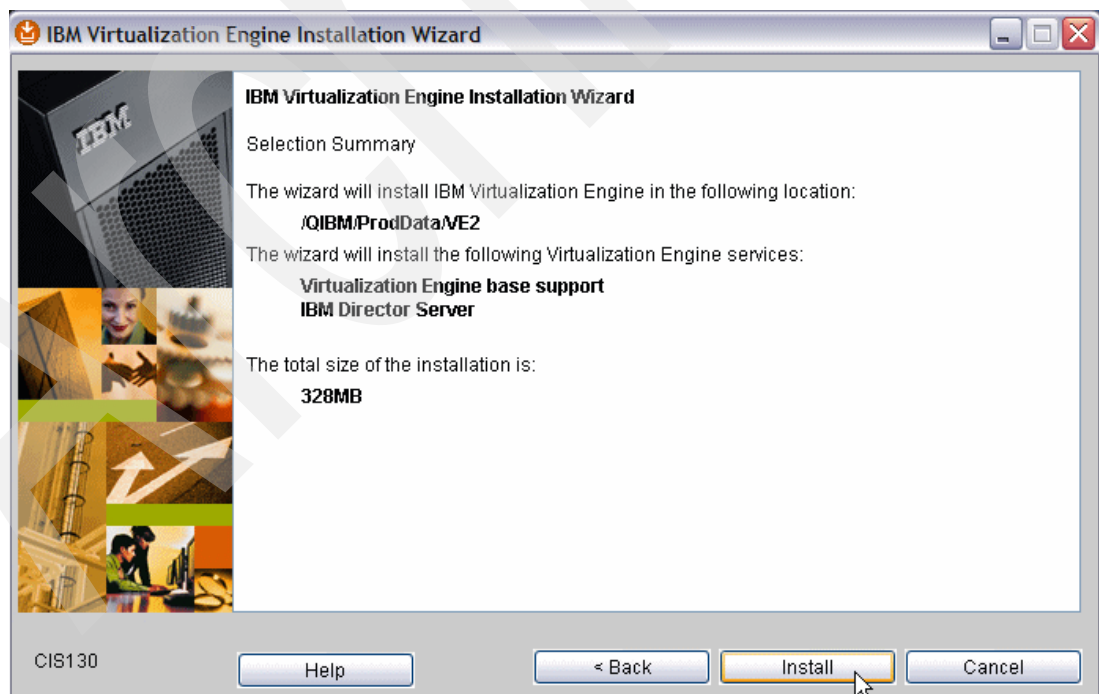

Figure 5-21 Selection Summary window
16. The Selection Summary window (Figure 5-21) opens to indicate the services that are selected for installation. If you need to make changes, click **Back**. To continue with the installation, click **Install**.